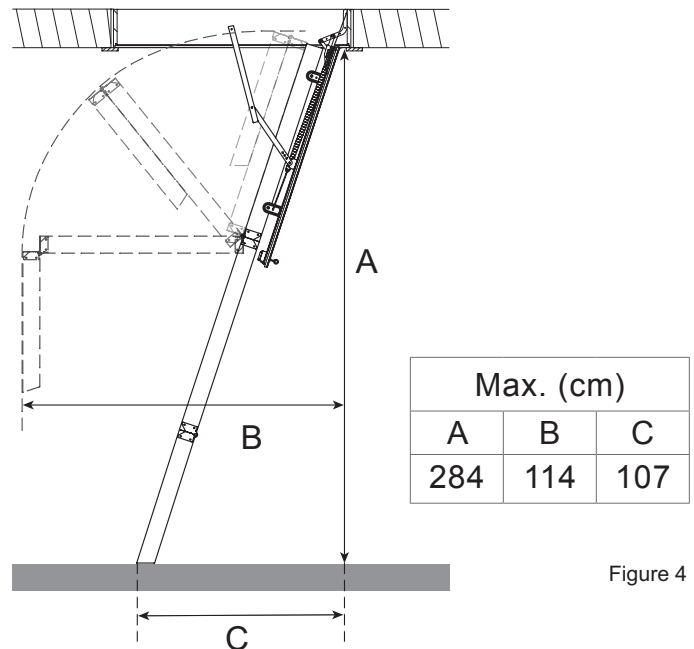

Figure 4
Wear gloves when removing insulation material. Check that the area selected for positioning the ladder is unencumbered by electrical wiring, water pipes, heating/cooling pipes, etc. If necessary, get a qualified craftsman to remove such encumbrances. Make sure that there is sufficient clearance (distance C) for the ladder to rest on the floor. Make sure that there is sufficient space for the ladder to fold out to its full length (B) (see figure 4).